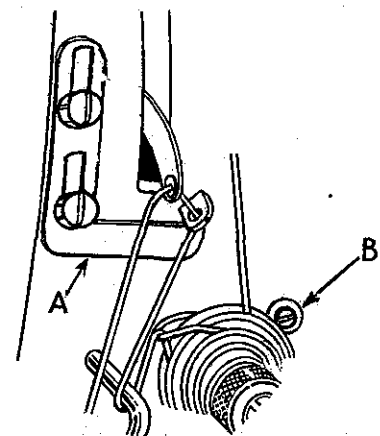
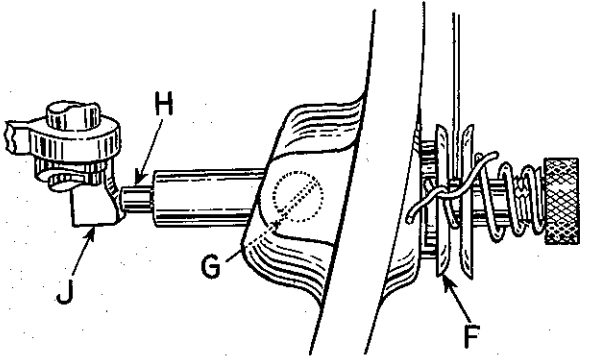

Fig. 11
Fig. 12
Test check spring tension (A, Fig. 10). There should be enough tension to insure a good returning snap when spring is depressed and released. Should it require adjusting, loosen set screw in the head on right side of tension post (G, Fig. 12) and remove tension post assembly. Partially loosen tension post set screw (B, Fig. 10) in tension post socket (C). Holding the socket in the left hand, turn the tension post (D) counterclockwise with the right hand until
The frame take-up eyelet (A, Fig. 11) should be set at its highest position.
The tension assembly should be located in bed from front to back, so that when the presser foot is raised to its highest position, the tension discs (F, Fig. 12) are opened just enough to allow the thread to pass through the discs freely.
To position the tension assembly, see that set screw in bed (G, Fig. 12) is loose and tension assembly adjusting screw (B, Fig. 11) is screwed down to the bed.
Lift the presser foot hand lifter to its highest position. With the left hand, grasp the thread and pull it through the tensions, with the right hand, push tension post deeper into the machine until release pin (H, Fig. 12) pressing against the presser bar connection (J) has opened the tension discs just enough to allow the thread to pull through freely.
Re-tighten set screw (G), turn tension assembly adjusting screw (B, Fig. 11) counterclockwise until it contacts the flange of the tension post socket.